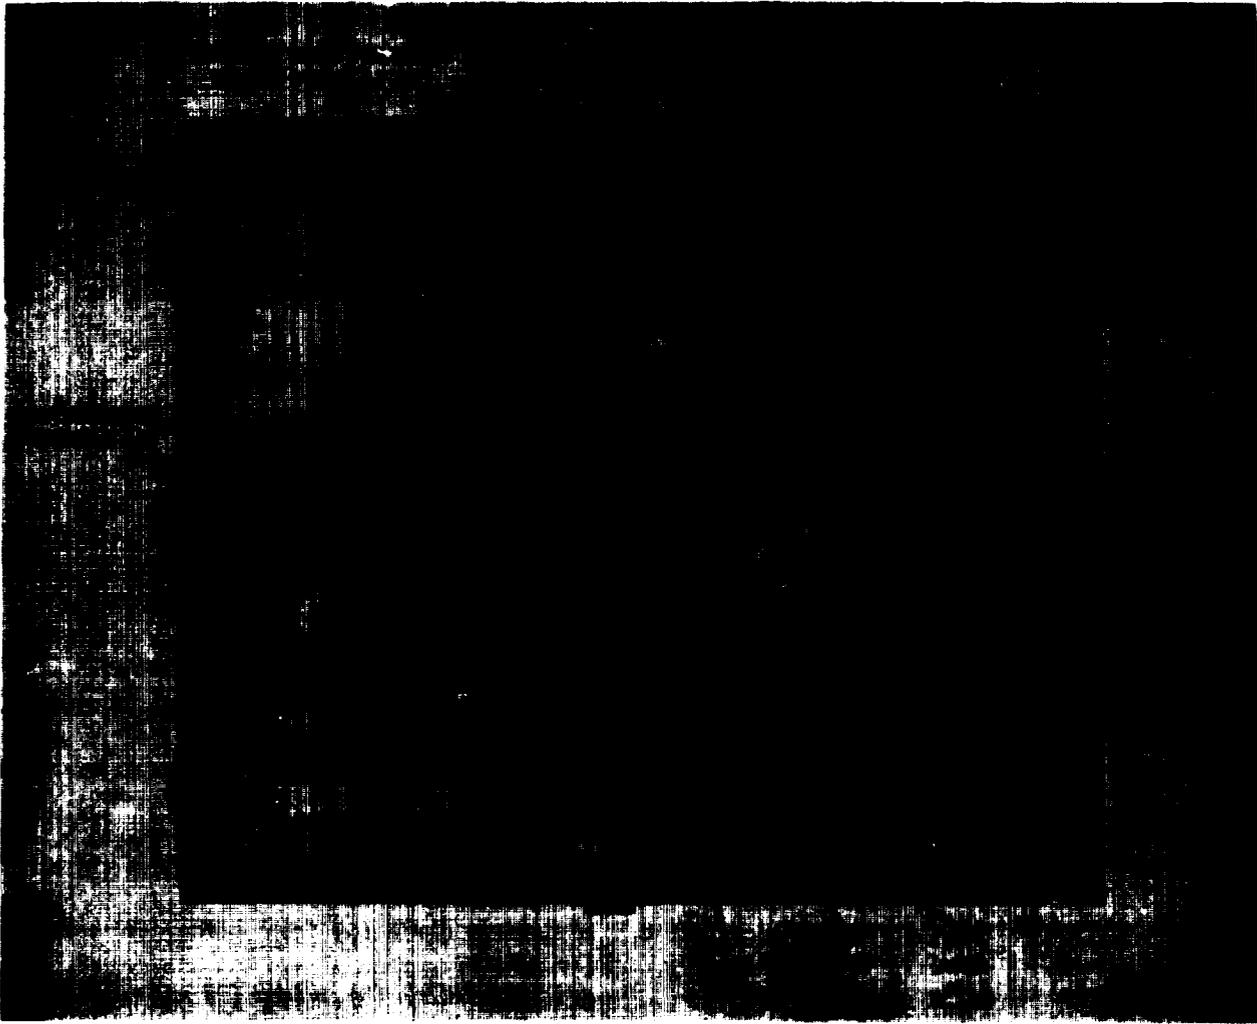

Figure 3-2. Removal and replacement of detector amplifier assembly A₄.
3-12. Removal and Replacement of Detector Amplifier Assembly A4 (IF Amplifier Detector) (Fig. 3-2)
The waveguide assembly includes six diode semiconductor devices. Two are in the discriminator (CR1 and CR2) ; two are in the mixer (CR3 and CR4) ; and two are in the modulator (CR5 and CR6). The diodes are located directly underneath connectors having corresponding numbers (fig. 3-2). To remove and replace these diodes proceed as follows :
a. Disconnect klystron leads from terminal board TB2 (fig. 3-2), identifying each lead connection.
b. Remove four screws (6), washers (5) and nuts (4) which hold klystron electron tube (7) to waveguide section.
c. Replace with new klystron electron tube (7), securing with screws (6), washers (5), and nuts (4). Care must be taken in tightening the cap screws so that the tube flange is not distorted and the tube pinch-off is not cracked.